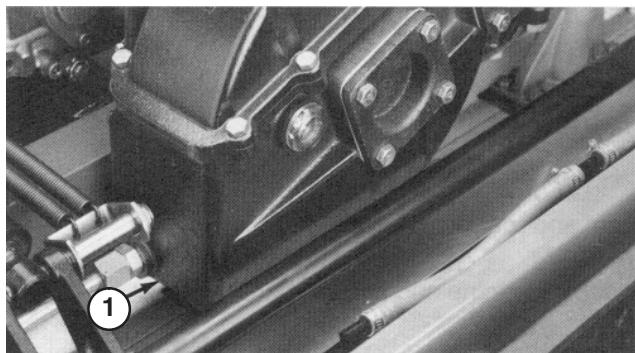

Figure 28
- Place a drain pan under the bottom of the gear case. Clean the area around the drain plug (Fig. 28).